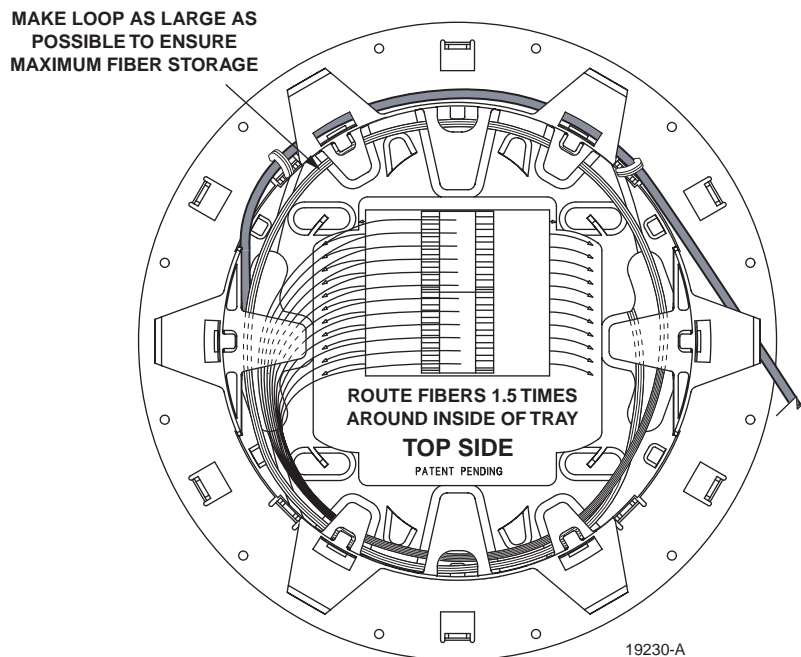

Figure 31. Routing Subunit A Around Front Side of Splice Tray
7. Route the breakout fibers at least 1.5 times around the inside of the tray making the loop as large as possible to ensure maximum fiber storage as shown in Figure 31.